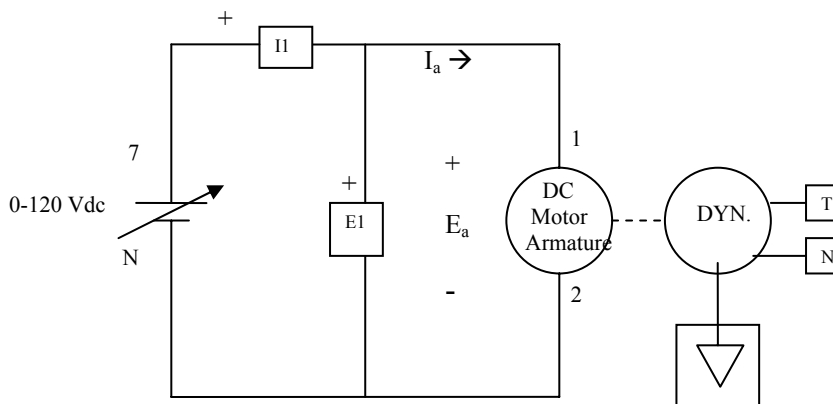
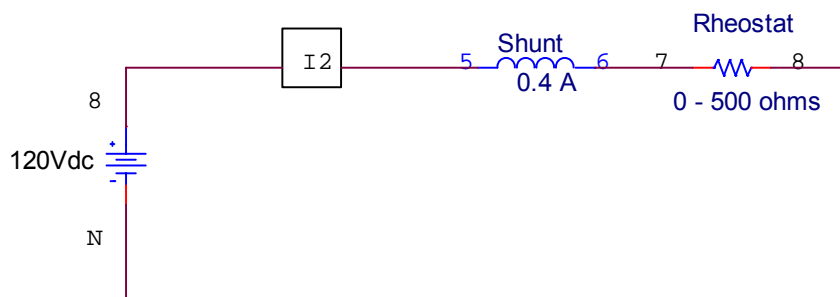

Figure 1a: Separately Excited DC Motor Armature Circuit
Figure 1b: Separately Excited DC Motor Field Circuit
9. Construct the separately excited DC motor using the DC Motor armature circuit of Figure 1a, and the DC Motor field circuit of Figure 1b. Connect the Speed, Torque, and ground leads from the Dynamometer to the DAI module.
11. Open the *Data Table Application* use it to record the input voltage (E1), armature current (I1), field current (I2), speed (N), and output torque (T). Use the power supply voltage control knob to increase armature voltage from 0-120 volts in approximately 10 volt steps, **do not exceed 1800 rpm**. For each voltage setting, wait until the motor speed stabilizes, then record the data in the data table.
13. Open the *Graph window* by selecting it from the *Data Application* toolbar. Make the appropriate setting to obtain a plot of DC Motor speed (N) vs. input voltage (E1). Use the edit graph function to title the graph "Lab 7 Plot 1 N vs. E1." Name the x-axis "Input Voltage (V dc)", and name the y-axis as "DC Motor Speed (rpm)." Then save or print the graph for your report.